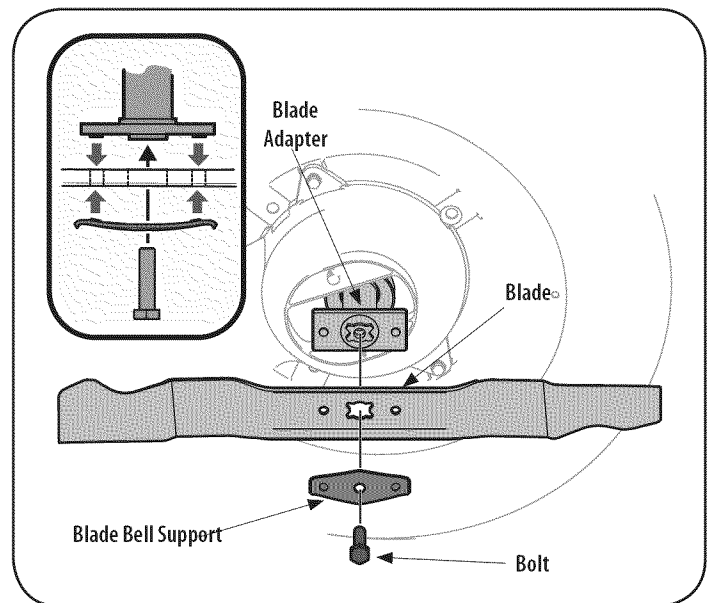

Figure 21
2. Remove the bolt and the blade bell support which hold the blade and the blade adapter to the engine crankshaft. See Figure 21.
5. Lubricate the engine crankshaft and the inner surface of the blade adapter with light oil. Slide the blade adapter onto the engine crankshaft. Place the blade on the adapter such that the side of the blade marked "Bottom" (or with part number) faces the ground when the mower is in the operating position. Make sure that the blade is aligned and seated on the blade adapter flanges. See Figure 21 inset.